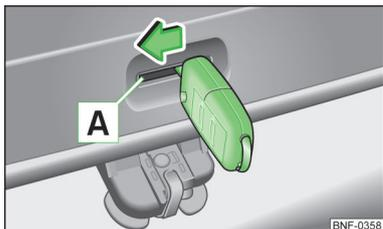

Fig. 121
- › Insert the vehicle key into the slot **A** » Fig. 121 in the trim panel as far as it goes.